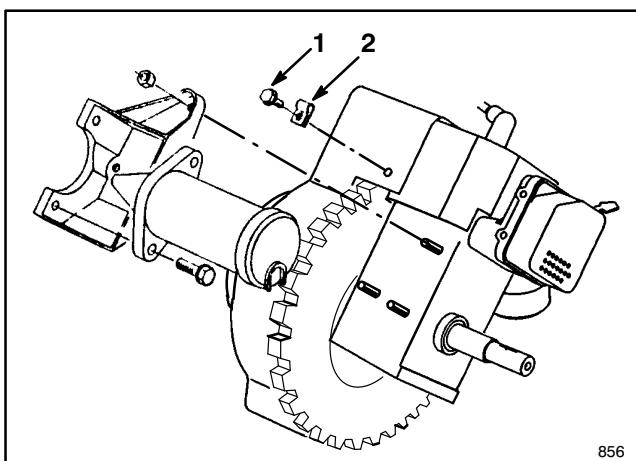

Figure 4
1. Switch assembly 2. Screw (3) 3. Upper shroud
4. Remove screw and r-clamp (Fig. 4) and save for reinstallation.